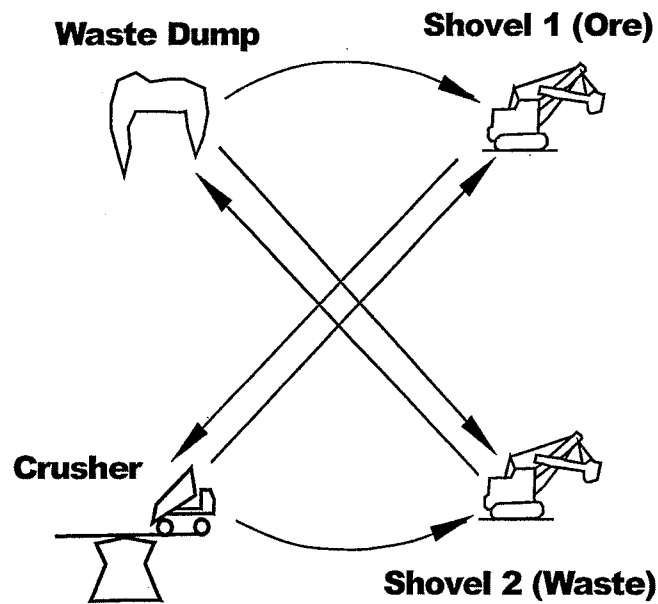

Figure 6.2 All Possible Truck Routings
6.2 Figure 6.2 shows a sketch with two shovels operating. One shovel is digging waste which must be trucked to the waste dump and the other shovel is loading ore which must be trucked to the crusher.
6.2.1 Referencing Figure 6.2 showing all possible routings, draw two neat diagrams showing the respective “closed out” and “dispatched” routes. (2 marks)
6.2.2 What are the theoretical numbers of trucks required for “closed out” and “dispatched” operation in Figure 6.2 to obtain maximum production. (2 marks)
6.3.4 All large open pits use the principles shown in Figure 6.2 and in the text of question 6 above.